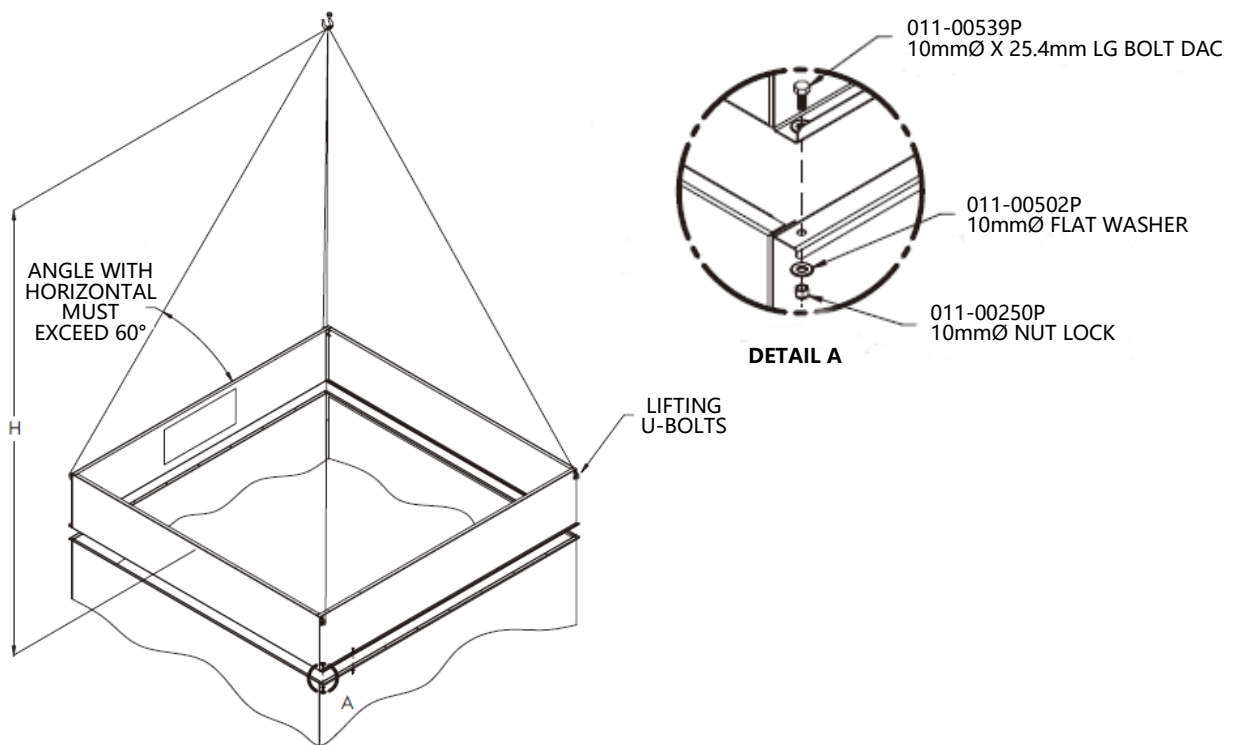

Figure 14 – Discharge Hood Rigging and Assembly (Shown without Dampers)
Some units may be supplied with an optional discharge hood section. This section will ship from the factory as a separate item or loosely mounted on top of either the basin and fan section or coil section to reduce freight charges. Each hood section is equipped with U-bolts located at the four corners for lifting and final positioning (**Figure 14**). Always use safety slings for extended lifts or where any hazard exists.
Install the retainer clips in all four corners as shown in **Figure 14**. For 5,4m-long hoods, two (2) additional clips are provided and are to be fastened in the middle of each side.